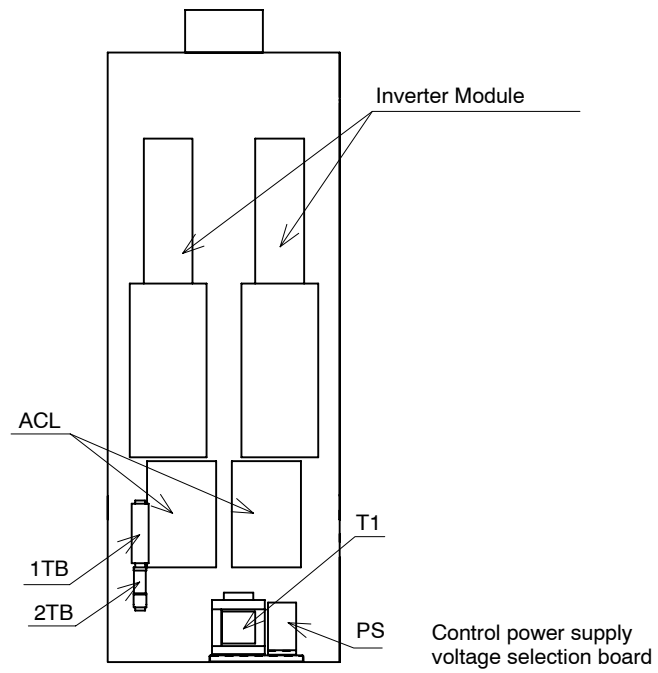

Fig 5.2 Selection of Control Power Supply Voltage for 400-V Class (400 kW, 600 kW, 800 kW) and 575-V Class (600 kW, 900 kW, 1200 kW) Inverter Panels
3. Insert the jumper at the position that corresponds to the control power supply voltage supplied to the Inverter Panel. *Figure 5.1* and *Figure 5.2* indicate the jumper location and *Figure 5.3* indicates jumper arrangement.